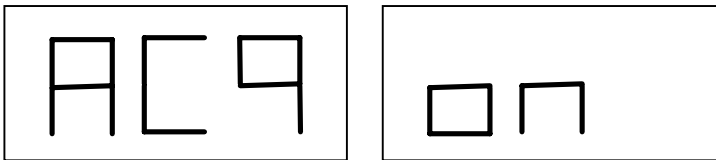

Fig. F3.10 - “Balancing planes acquisition enabled” message
2. Select the plane balancing acquisition mode by pressing [P2] until the writing ACq is viewed on the left display as shown in figure F3.10. When the machine is switched on, the acquisition mode is set by default;